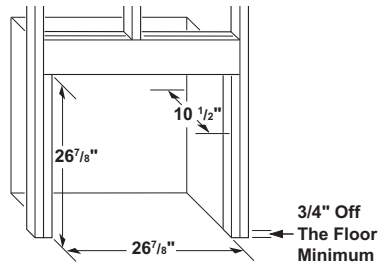
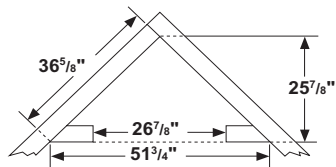

Figure 6 - Rough Opening for Installing in Wall
Figure 7 - Rough Opening for Installing in Corner
1. Frame in rough opening. Use dimensions shown in Figure 6 for the rough opening. If installing in a corner, use dimensions shown in Figure 7 for the rough opening. The height is 26 7/8" which is the same as the wall opening above.